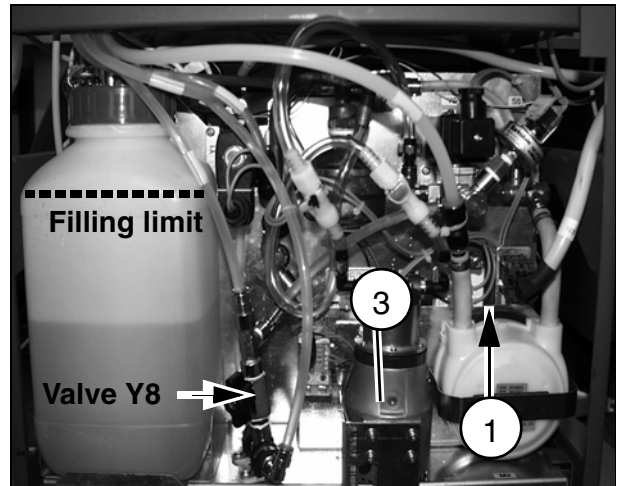

Fig. 11
**Emptying the cooling circuit with the new pump (3/Fig. 11)**
- Open valve Y8 (Fig. 11),